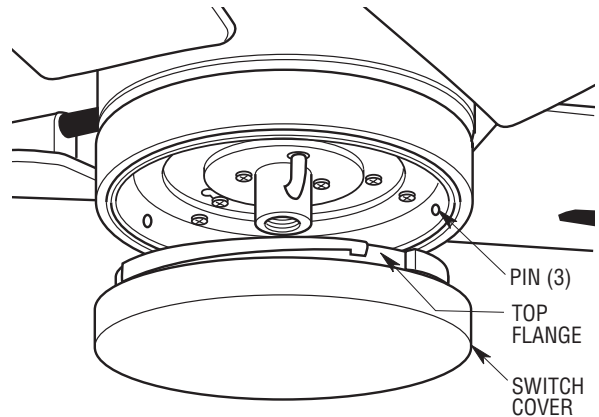

Figure 18
1. Place the switch cover onto the light kit assembly aligning the three flat areas on the top flange of the switch cover with the three pins on the inside of the assembly (Figure 18). Then turn the switch cover clockwise until it stops turning.